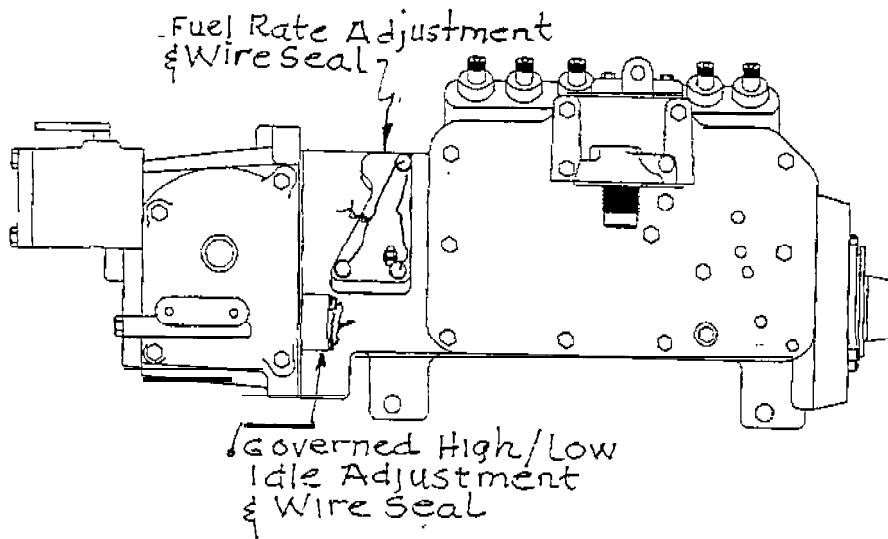

FIGURE 2- SEALED ENGINE ADJUSTMENTS
(WEEKLY) 6. () The fuel injection rate adjustment mechanism (3)* and the engine governor setting are locked and sealed (see Figure 2).